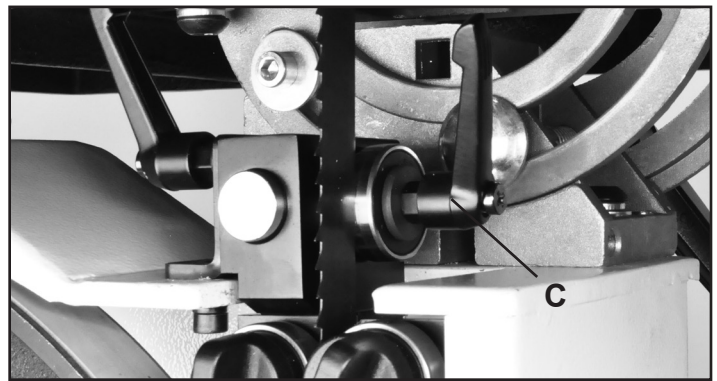

FIGURE 12 NOTE: Blade Guard removed for photo purposes
4. Adjust the rear bearing guide to be just clear of the back of the saw blade. Release the guide's Locking Handle (Fig. 12, C) and move the rear guide towards the blade by using the lock handle to pull the guide towards the blade. Tighten the handle when done.